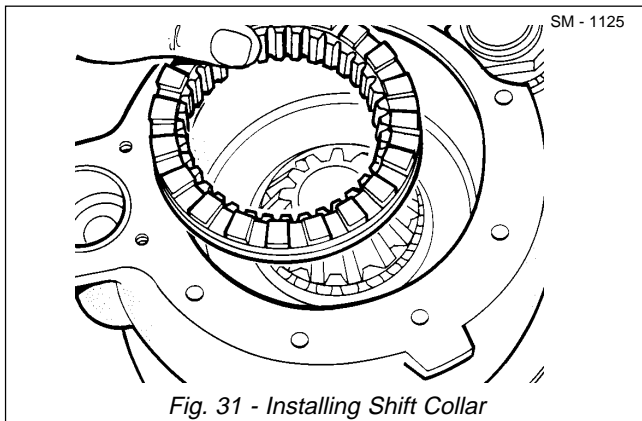

Fig. 31 - Installing Shift Collar
18. Mesh shift collar (21) with differential side gear (22) splines. Refer to Fig. 31.